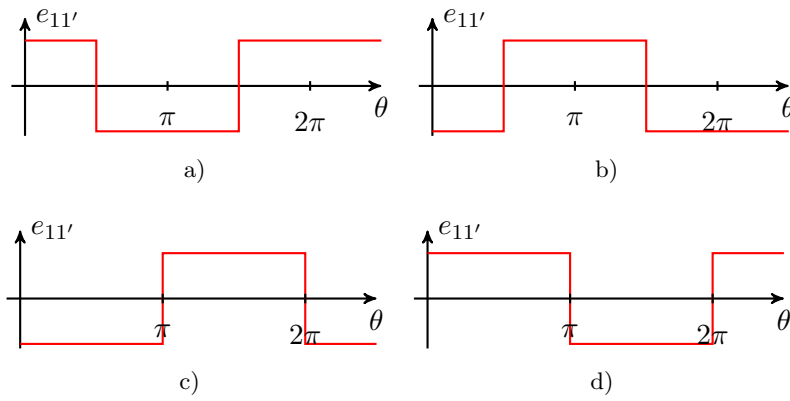

Figure 3:  $e_{11'}$  versus  $\theta$
- b) Which plot of  $e_{11'}$  versus  $\theta$  is correct in Fig.3?